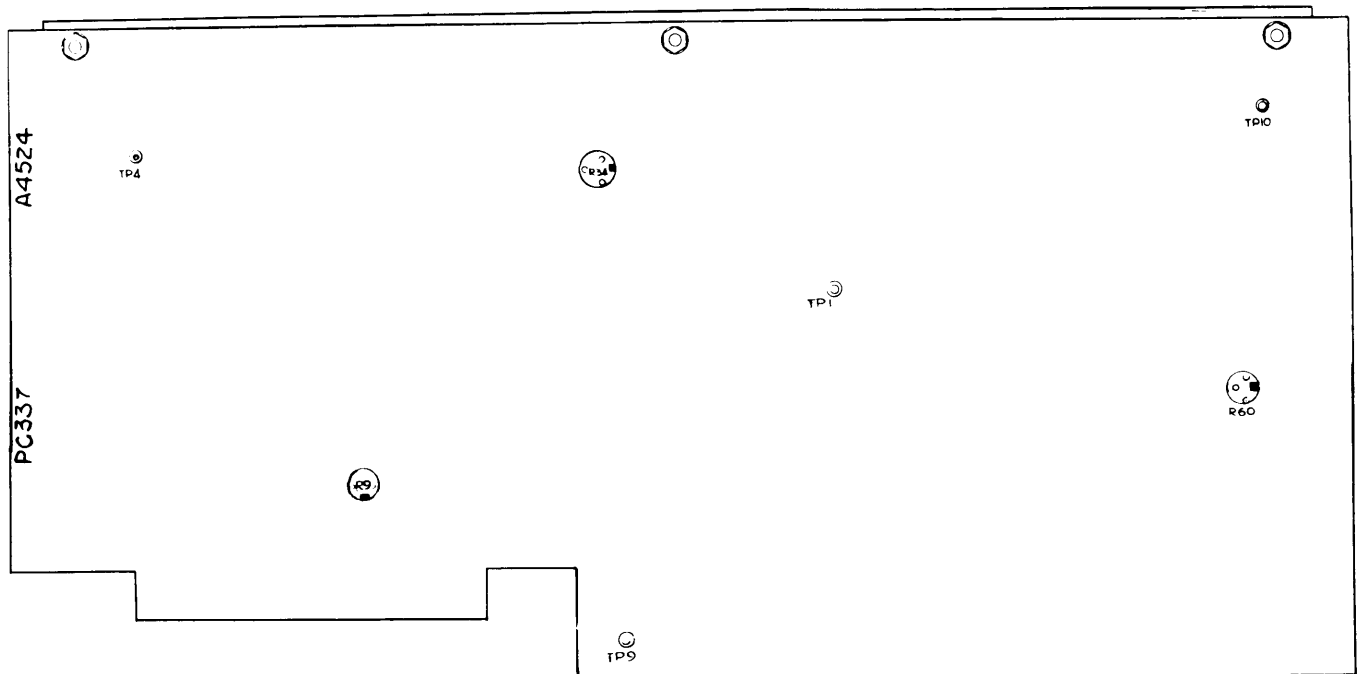

Figure 5-8. Sideband Generator Z107, Adjustments
i. SIDEBAND GENERATOR Z107. (See figure 5-8.)